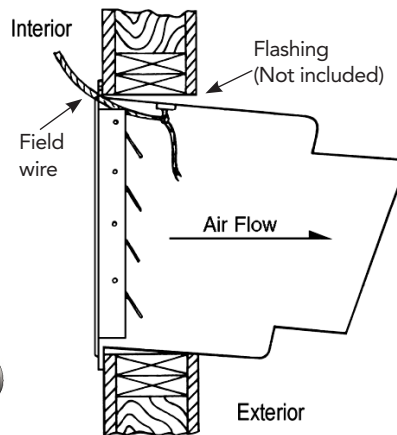

Figure 2
4. Once the unit has been securely fastened to the wall, the fan is ready to be wired. As shown in Figure 2, the electrical wire from the motor should be run through the wire harness on the top inside of the fan housing and then through the notch in the upper right of the shutter frame.